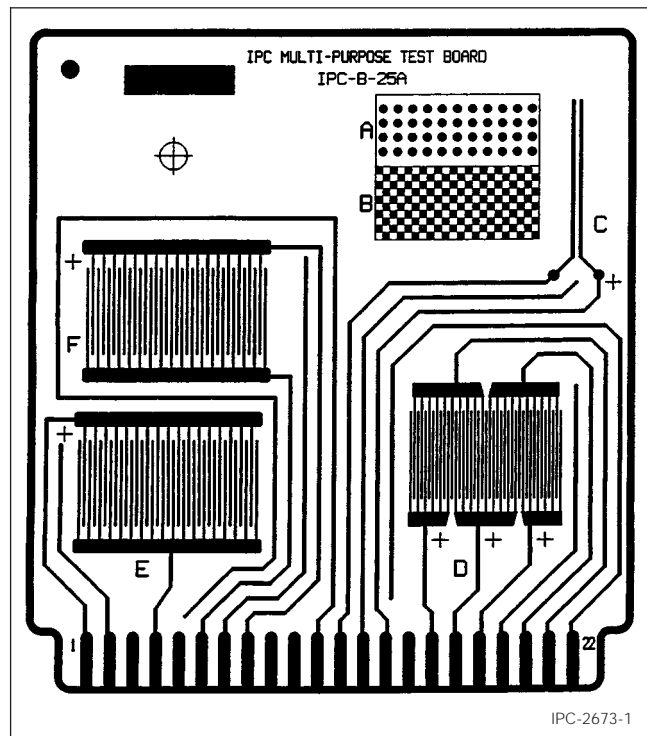

Figure 1 IPC-B-25A Test Board
3.1 Qualification Testing Six IPC-B-25A test boards (see Figure 1) coated with solder mask and cured in accordance with solder mask supplier's recommendations.
3.2 Conformance Testing Six IPC-B-25A boards (see Figure 1) containing the C pattern ("Y" pattern) with 0.635 mm lines/0.635 mm spacing [25.00 mil lines/25.00 mil spacing] or minimum spacing on the production board, whichever is smaller, coated with solder mask according to the coating supplier's recommendations.